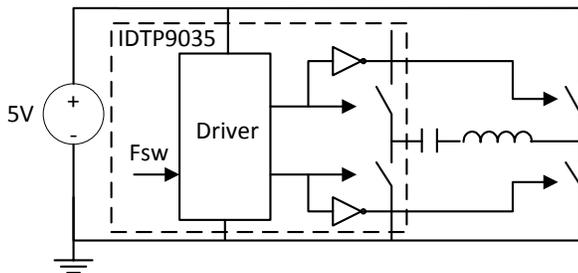
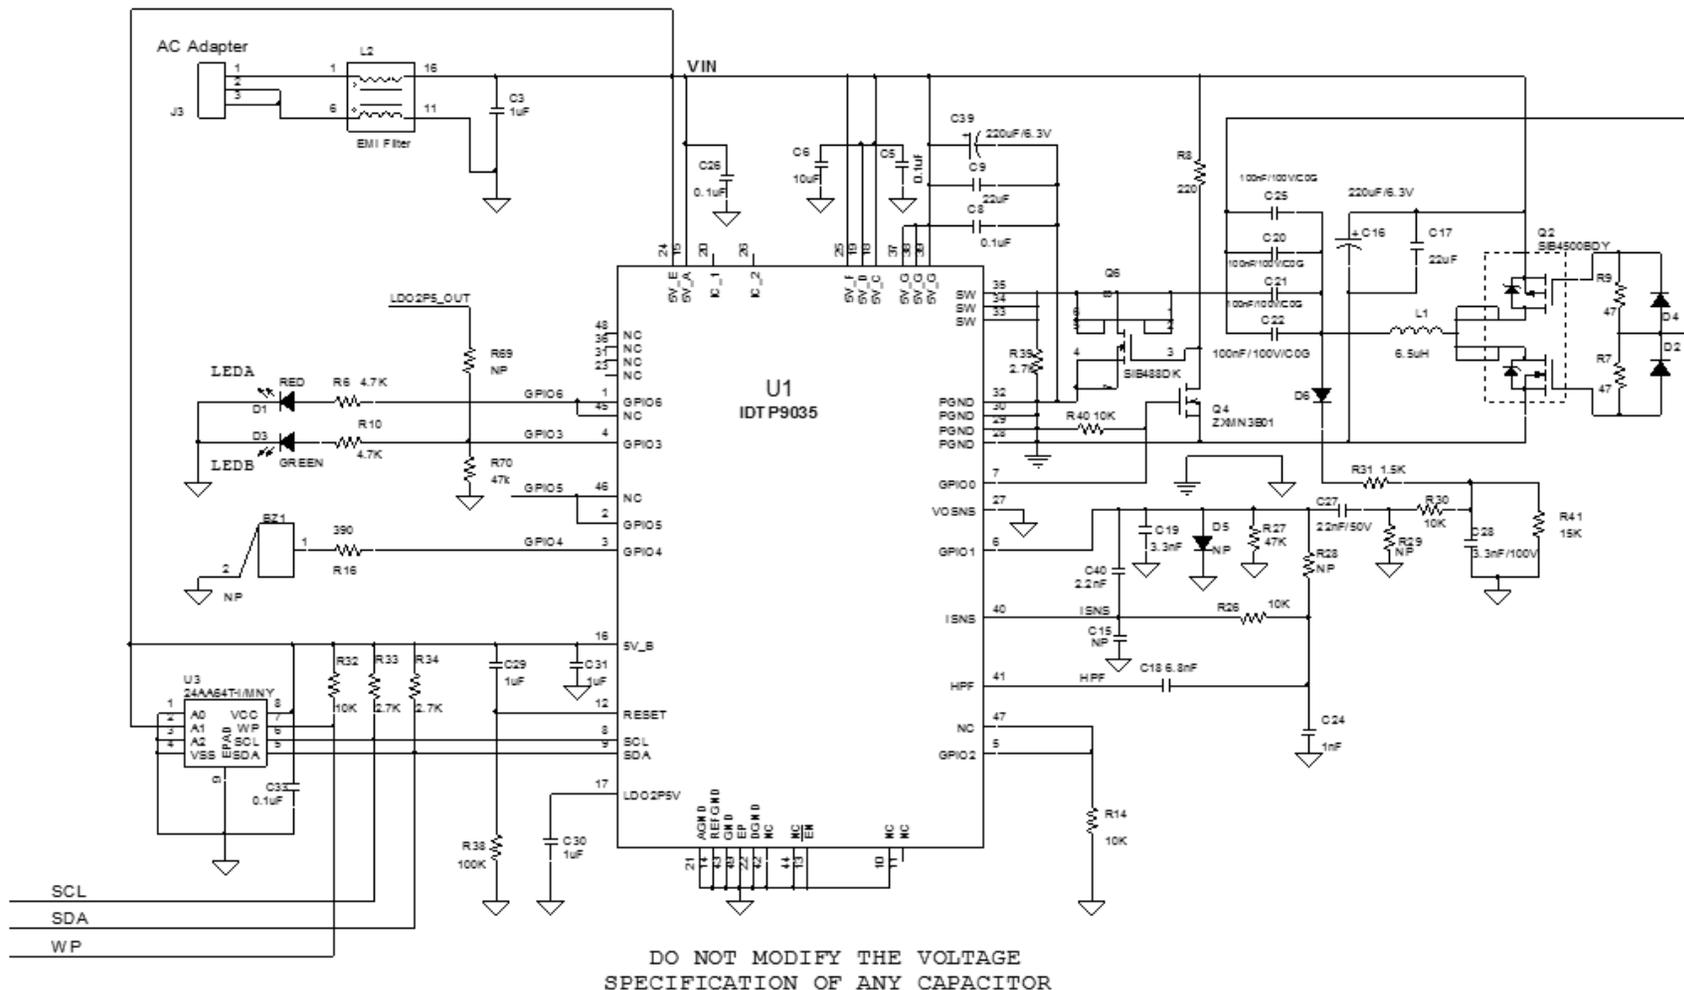

Figure 7. Full-Bridge inverter TX Coil Driver.
Figure 9. IDTP9035 WPC “Qi” Compliance Schematic (See IDTP9035 Evaluation Kit User Manual for complete details)
The Driver Control block contains the logic, shoot-through protection, and gate drivers for the on-chip power FETs and external FETs. The on-chip and external FETs are configured as a full-bridge power inverter, effectively doubling the peak-to-peak voltage applied to the coil. The frequency of the full-bridge output waveform is set by the MCU. (For details, please refer to the simplified application diagram (Figure 1) and the reference design schematic (Figure 9)).
The recommended applications schematic diagram is shown in Figure 9. The IDTP9035 operates with a  $5V_{DC}$  ( $\pm 0.25V$ ) input. The switching frequency varies from 110kHz to 205kHz. At the 205kHz limit the duty cycle is also changed to adjust the power transfer level. The power transfer is controlled via changes in the switching frequency and duty cycle. The base or TX-side has a series resonance circuit made of a WPC Type-A5 or A11 coil ( $\sim 6.3\mu H$ ) and a series resonant capacitor ( $\sim 400nF$ ) driven by a full-bridge inverter, as shown in Figure 7.
10). A complete design schematic compliant to the WPC “Qi” standard is given in Figure 9. It includes WPC “Qi” LED and buzzer signaling.